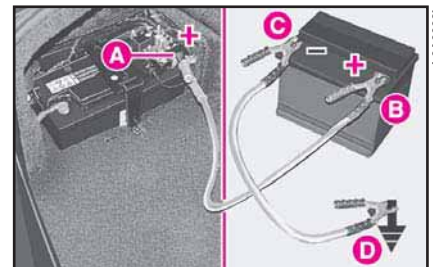

fig. 3
5) Connect the positive terminals (+) **A** (fig. 3) and **B** of the two batteries with a jump lead.